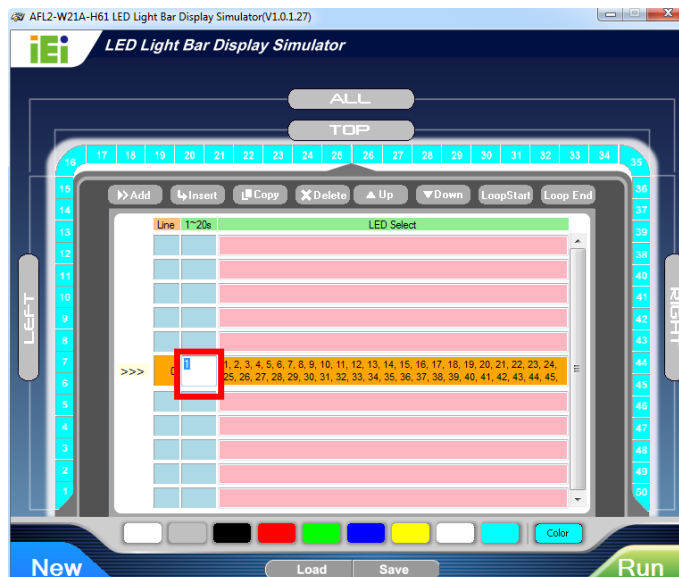

Figure 2-11: Light Duration
Step 19: Enter the light duration. Please note that the unit is second, enter a number between 1 and 20. See **Figure 2-11**.